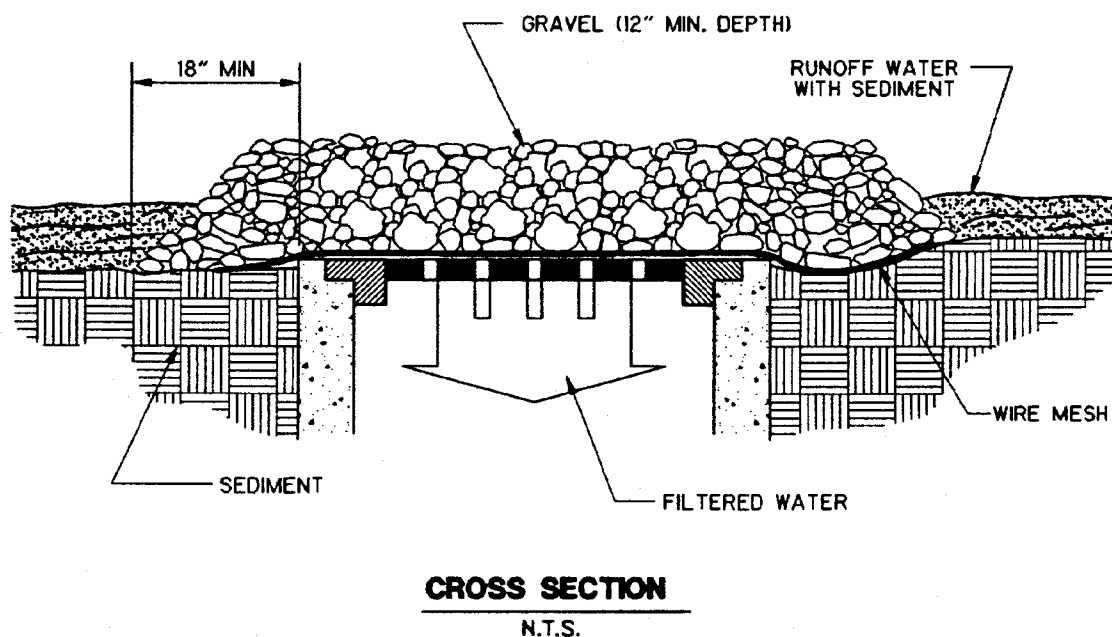

Figure 1-34 Wire Mesh and Gravel Inlet Protection (NCTCOG, 1993)
- (1) Wire mesh should be laid over the drop inlet so that the wire extends a minimum of 1 foot beyond each side of the inlet structure. Wire mesh with 1/2-inch openings should be used. If more than one strip of mesh is necessary, the strips should be overlapped (see Figure 1-34).
- (2) Coarse aggregate should be placed over the wire mesh as indicated in Figure 1-34. The depth of stone should be at least 12 inches over the entire inlet opening. The stone should extend beyond the inlet opening at least 18 inches on all sides.
- (3) If the stone filter becomes clogged with sediment so that it no longer adequately performs its function, the stones must be pulled away from the inlet, cleaned and/or replaced.